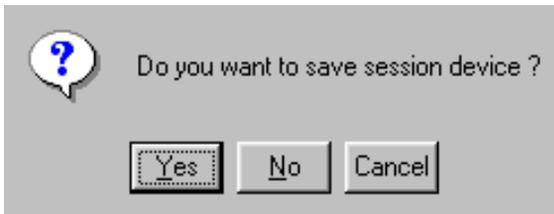

Figure 2-23: Save Session dialog box
12. Click **Yes**. A message box displays, as shown in Figure 2-23.